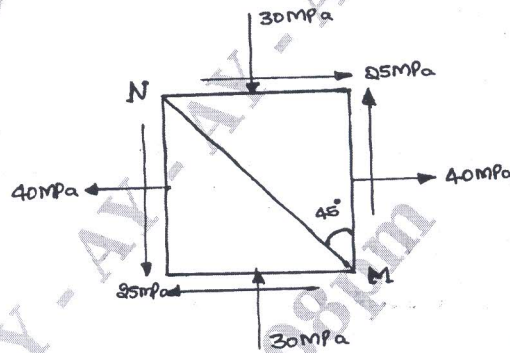

Fig Q1(a)
- 1 a. A point in a structural member subject to plane stress shown in Fig Q1(a). determine following :